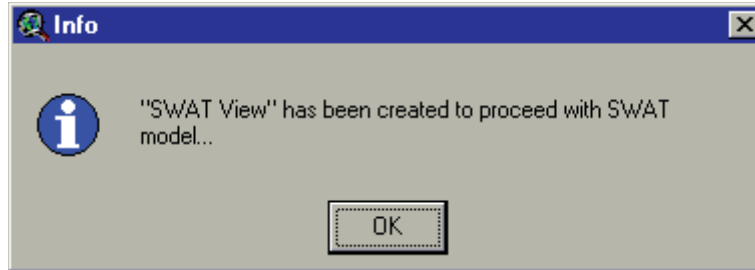

Figure 6.59
- When the HRU distribution has been defined, the *SWAT View* is automatically created. A message box will appear notifying the user of this fact (Figure 6.59).